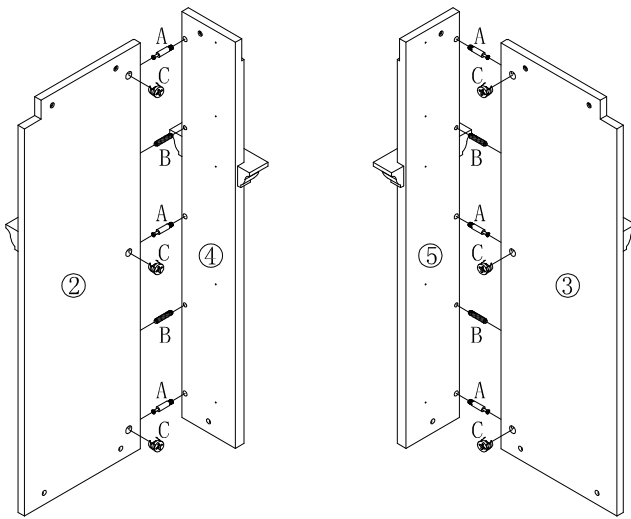

Figure 1
AFTER ASSEMBLED FIGURE 1,INSERT (B) WOOD DOWEL & (H) CROSS SOCKET NUT TO THE RELATED HOLES ,THEN USE (D) SOCKET HEXAGON SCREW CROSS (E) SPRING WASHER &(F) FLAT WASHER TO CONNECT (7) BASE.